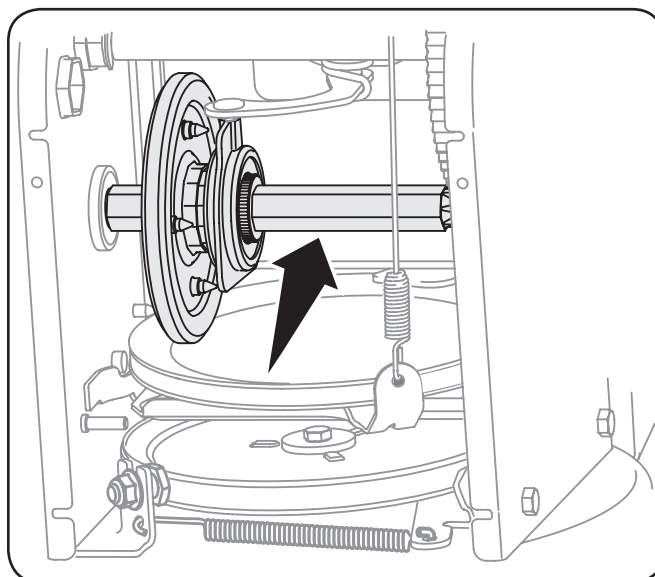

Figure 6-2
4. Apply a light coating of engine oil (or 3-in-1 oil) to the hex shaft. See Figure 6-2.